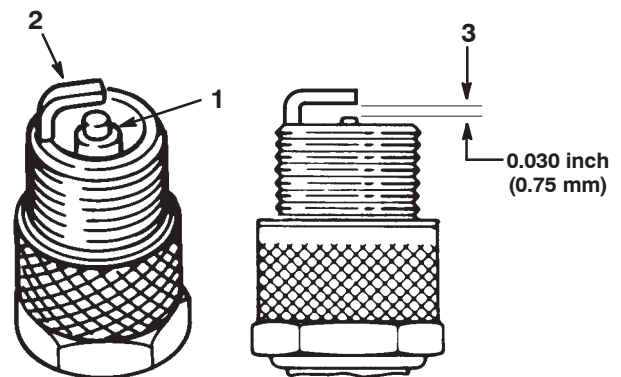

Figure 37
1. Look at the center of the spark plug(s) (Fig. 37). If you see light brown or gray on the insulator, the engine is operating properly. A black coating on the insulator usually means that the air cleaner is dirty.
2. Check the gap between the center and side electrodes (Fig. 37).
Note: Bend the side electrode (Fig. 37) if the gap is not correct.